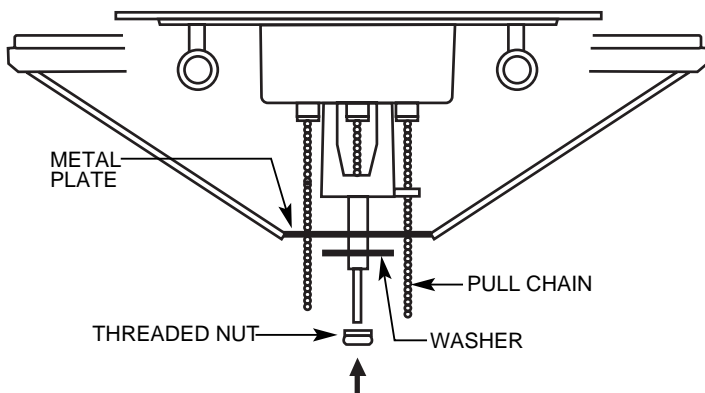

Figure 10A. Globe Assembly
Align the (3) pins with the (3) small clearance holes in the metal plate at the bottom of the globe assembly. See Figure 10A. Make certain the (2) pull chains are aligned with the (2) larger out-board holes in the metal plate.
Guide the threaded tube and both chains through the larger holes in the metal plate. See Figure 10A. Lift the globe until the metal plate in the bottom of the globe bottoms out against the plastic spacer with the (3) pins sticking through the small holes in the metal plate.
Keeping the globe in position, place the large flat washer over the threaded tube and against the bottom of the globe. Thread the assembly nut onto the threaded tube, running it up tight against the bottom of the washer. Tighten the nut very securely. See Figure 10A.